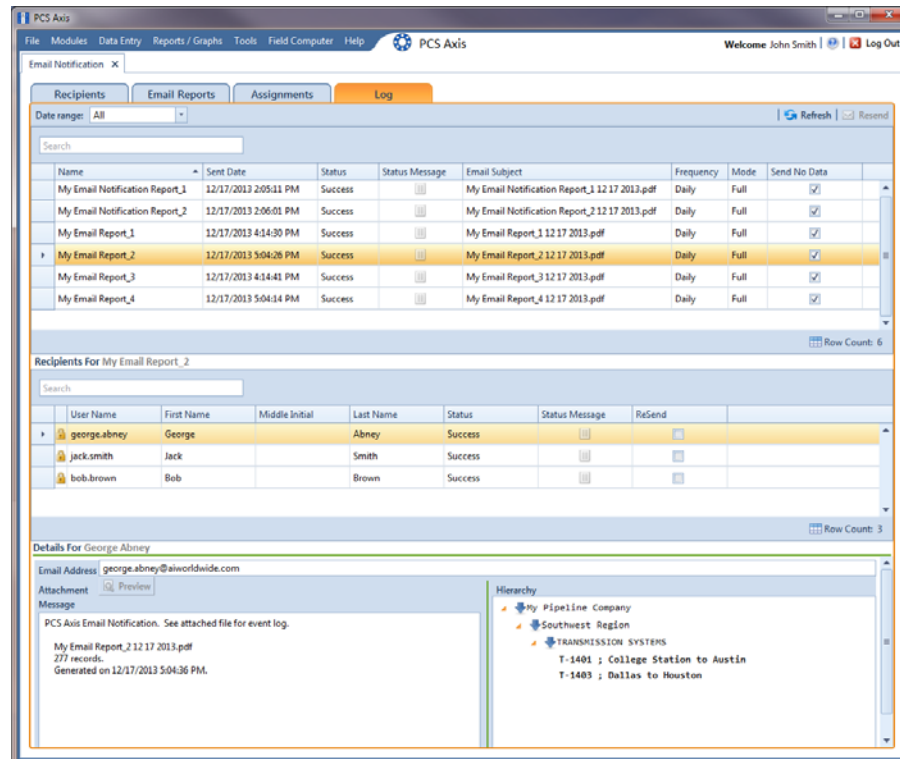

Figure 11-14. Email Notification Log
If your computer is installed with Adobe® Reader, you can also view a copy of a report sent to an email recipient by clicking the *Preview* button in the *Details For* group box (Figure 11-14). Clicking *ReSend* for a selected email recipient in the *Recipients For* group box allows PCS Axis to re-send reports assigned to the user.
- 2 Click  **Log** to open the *Email Notification* log (Figure 11-14, page 467).
- 2 Click **Log** to open the *Email Notification* log (Figure 11-14, page 467).